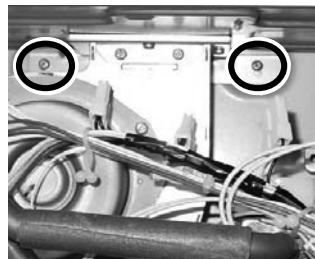

Figure 81 Bottom screws
16. Remove the 4 screws connecting the heat exchanger to the back of the casing. (Figure 81)
22. Install the 4 screws at the top and bottom of the heat exchanger to the back of the casing. (Figure 81)